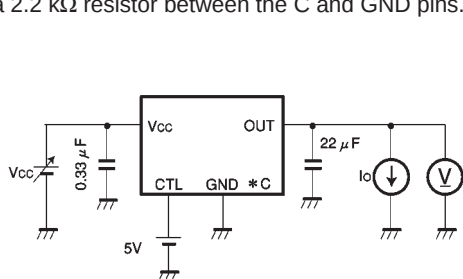

Fig.1 Measurement circuit for output voltage, input stability, load regulation, and temperature coefficient of output voltage
(6) Internal circuits could be damaged if there are modes in which the electric potential of the application's input (V_{CC}) and GND are the opposite of the electric potential of the various outputs. Use of a diode or other such bypass path is recommended.
(7) Although the manufacture of this product includes rigorous quality assurance procedures, the product may be damaged if absolute maximum ratings for voltage or operating temperature are exceeded. If damage has occurred, special modes (such as short circuit mode or open circuit mode) cannot be specified. If it is possible that such special modes may be needed, please consider using a fuse or some other mechanical safety measure.
(8) When used within a strong magnetic field, be aware that there is a slight possibility of malfunction.
Figure 1 is a line graph showing the power dissipation characteristics of the IC under different cooling conditions. The y-axis represents Power Dissipation (P_d) in Watts (W), ranging from 0 to 25. The x-axis represents Ambient Temperature (T_a) in degrees Celsius ($^{\circ}\text{C}$), ranging from 0 to 150. Four curves are plotted, each representing a different cooling scenario:
- (1) Infinite heat sink: $P_d = 22.0$ W at $T_a = 25^{\circ}\text{C}$
- (2) Alumina PCB, $100 \times 100 \times 2$ mm²: $P_d = 11.0$ W at $T_a = 25^{\circ}\text{C}$
- (3) Alumina PCB, $50 \times 50 \times 2$ mm²: $P_d = 6.5$ W at $T_a = 25^{\circ}\text{C}$
- (4) IC alone: $P_d = 2.0$ W at $T_a = 25^{\circ}\text{C}$